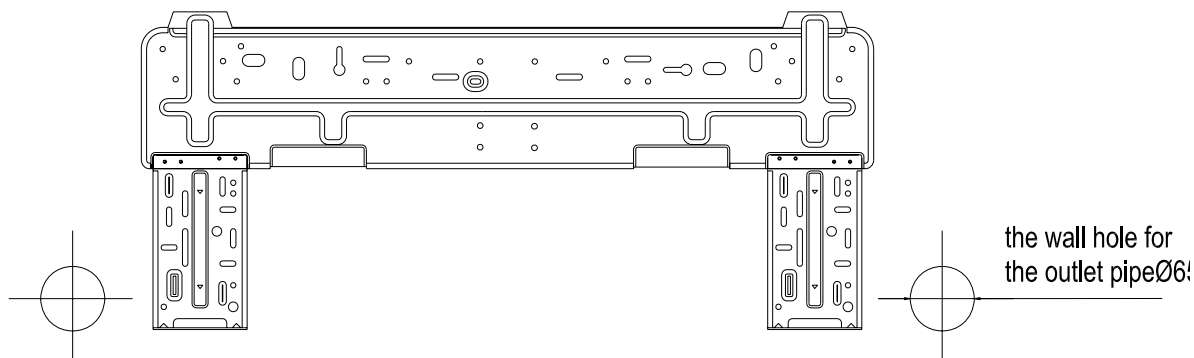

Fig.1
4. The diameter showed on the fig.1 is 65mm.
Make the piping hole (Φ65mm) in the wall at a slight downward slant to the outdoor side. The center of the hole should be determined refer to Fig.1